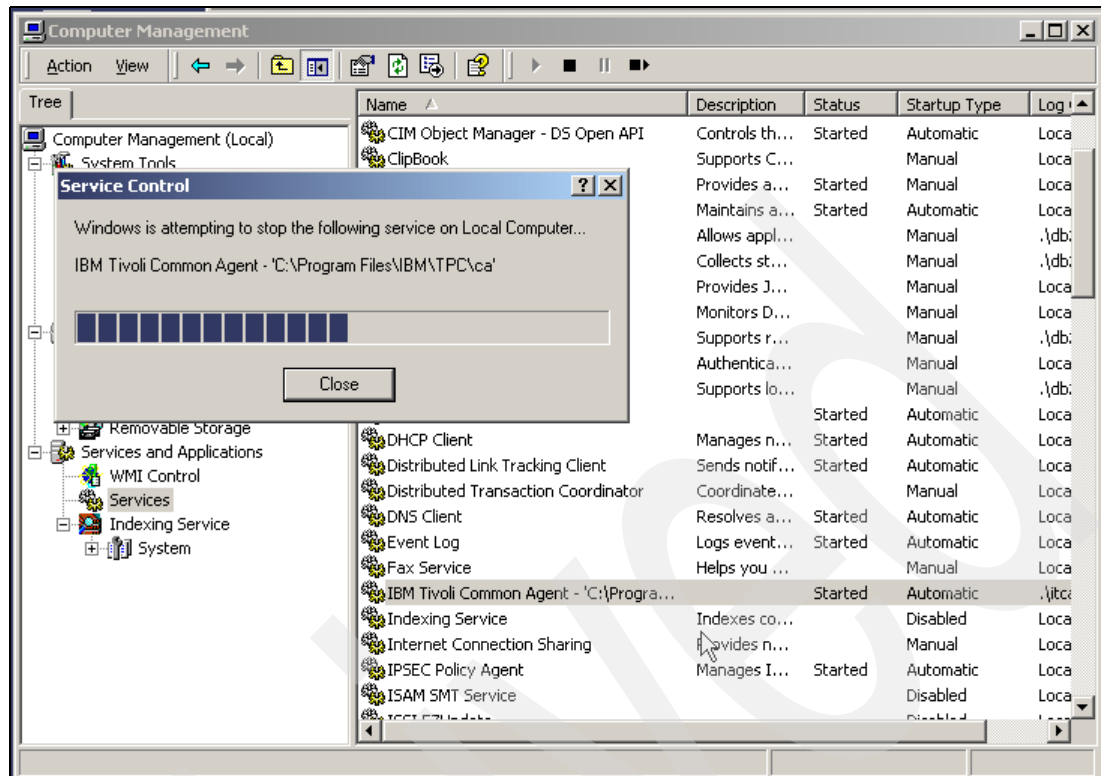

Figure 6-21 Restart IBM Tivoli Common Agent
4. After you delete the contents of the cert directory that contains these files, you need to restart the IBM Tivoli Common Agent services (see Figure 6-21 on page 245):